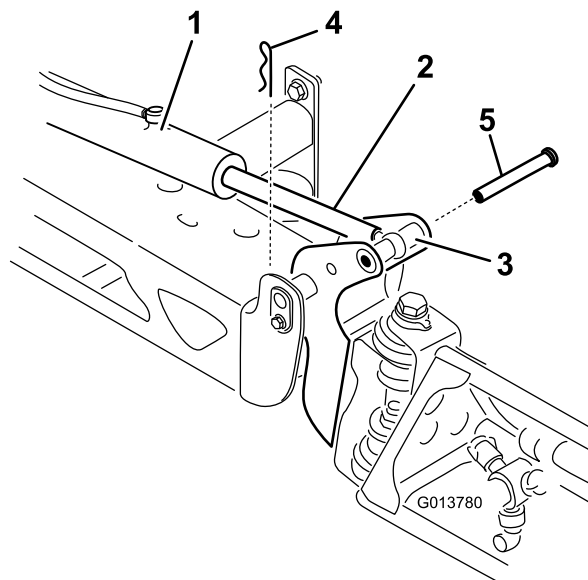

Figure 92
2. Remove the cotter pin from the pivot pin (Figure 92).
3. Lift up on the boom, remove the pin (Figure 92), and slowly lower the boom to the ground.
- While holding the boom, insert the pin through both boom pivot and actuator rod (Figure 92).